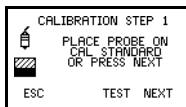

Figure 28. Step 1 - on thickness standard
1. Hold probe in air and press **CAL** softkey (Figure 28).